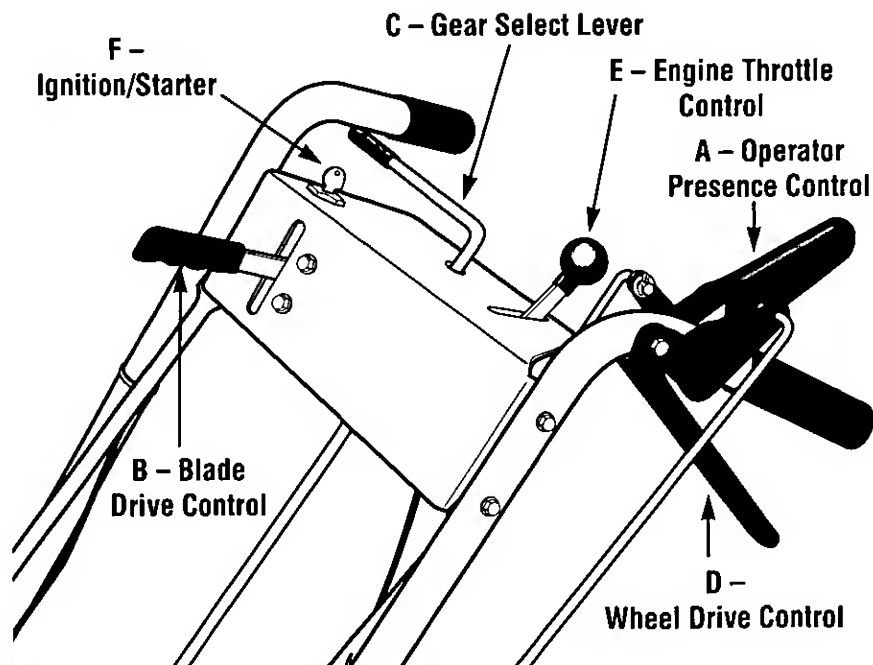

Figure 4-3: Mower Controls
The mower can be manually pushed or pulled by putting the Gear Select Lever (C, Figure 4-3) in N (neutral) and pressing and holding the Operator Presence Control
Control (A, Figure 4-3) down against the handlebar grip.
3. Move Engine Throttle Control (E, Figure 4-3) fully upward to choke setting to start a cold engine or to fast (rabbit) setting to start a warm engine.
- B. Turn ignition key (F, Figure 4-3) fully clockwise to crank engine. To avoid damage to starter motor, do not crank engine for longer than five seconds at a time. Also, allow 15 seconds between each start attempt. If engine fails to start after three attempts, repeat instructions starting with Step 2 (try moving throttle to fast setting).
2. Press and hold Operator Presence Control (A, Figure 4-3) against handlebar grip.
3. Slowly push Blade Drive Control (B, Figure 4-3) fully forward until it stays in the engaged position. The blades are now rotating.
- A. Press and hold Operator Presence Control (A, Figure 4-3) against handlebar grip.
- B. Put the Gear Select Lever (C, Figure 4-3) into one of the numbered settings (1 - Slow, 2 and 3 - Medium, 4 - Fast). When first practicing with the mower, put lever in No. 1 setting. Select forward speeds according to mowing conditions and terrain. Use slower speeds on rough terrain or when grass is heavy or thick. The forward speed can be increased on smooth terrain or if the grass cover is light. Allow the wheels to stop completely before shifting from one forward speed into another.
- C. To start the wheels, slowly squeeze the Wheel Drive Control (D, Figure 4-3). The harder you squeeze, the faster the wheels will turn. To avoid sudden acceleration, slowly squeeze the lever.
- A. Stop the mower blades and wheels by releasing the Operator Presence Control (A, Figure 4-3).
- C. Put the Gear Select Lever (C, Figure 4-3) in R (reverse) setting by first moving lever to N (neutral). Then pull lever up, turn it to R position, and release lever.
- D. To start the wheels, slowly squeeze Wheel Drive Control (D, Figure 4-3). To avoid sudden acceleration, slowly squeeze the lever.